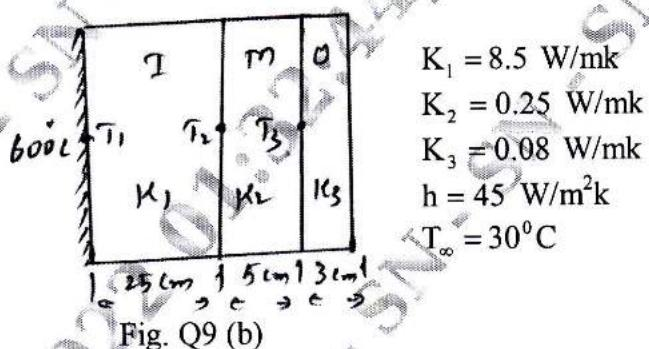

Fig. Q9 (b)
- b. An induction furnace wall is made up of three layers, inside, middle and outer layer with thermal conductivity K_1 , K_2 and K_3 respectively shown in Fig. Q9 (b). Determine nodal temperature. (10 Marks)